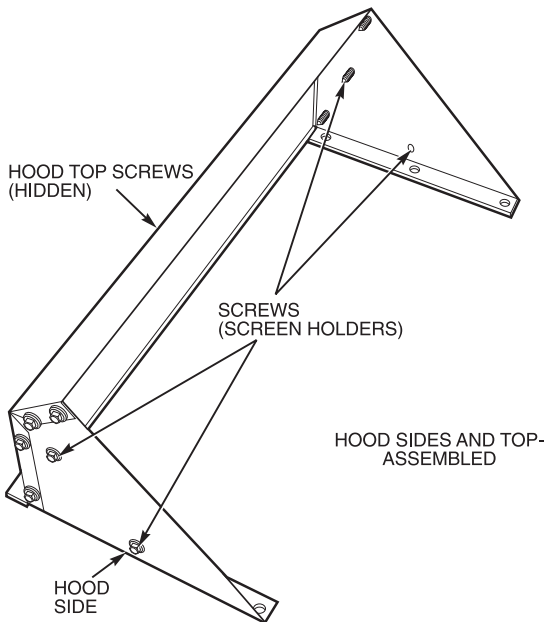
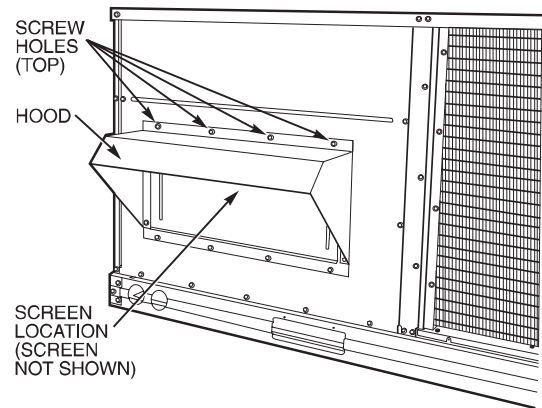

Fig. 13 — Outdoor-Air Hood Details
Fig. 14 — Outdoor-Air Damper with Hood Attached
5. Place hood on front of outdoor air opening panel. See Fig. 13 for hood details. Secure top of hood with the 4 screws removed in Step 3. See Fig. 14.
7. Align screw holes on hood with screw holes on side of manual outdoor-air damper. See Fig. 13 and 14. Secure hood with 6 screws from Step 6.
9. Remove and save screws currently on sides of hood. Insert screen. Secure screen to hood using the screws. See Fig. 14.